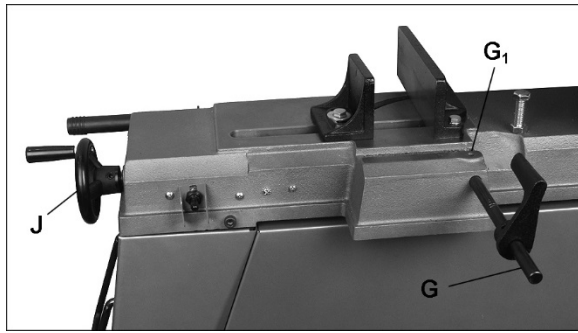

Figure 5
2. Install handwheel (J, Figure 5) onto vise lead screw, and tighten set screw.
3. Install workstop rod (G) into hole and tighten set screw (G1). Slide work stop on rod and secure with set screw.